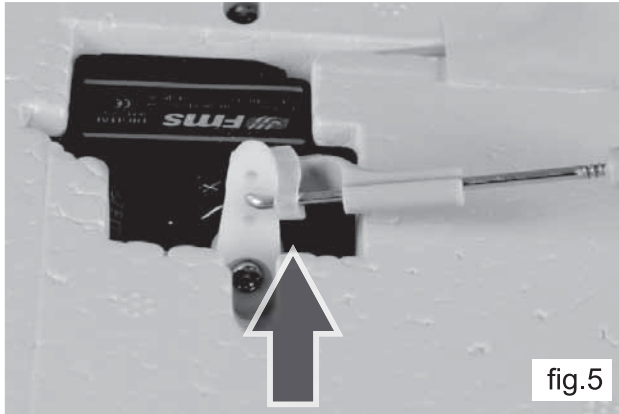
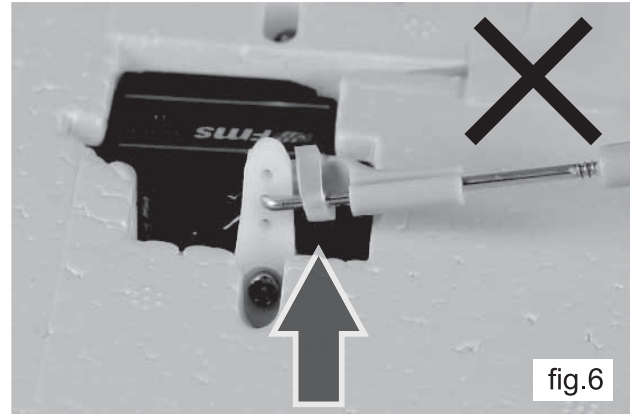

fig.5
fig.6
- 5) Slide the fuel tubing over the clevis to secure it (fig. 5). Note: Do not slide the fuel tubing too far or binding of the servo arm could result (fig. 6). Repeat steps 3-5 for the other aileron control rod linkage.